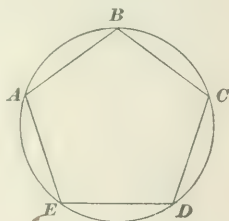

FIG. 45.
74. An **inscribed polygon** is one whose vertexes lie on the circumference of a circle and whose sides are chords, as $ABCDE$, Fig. 45.